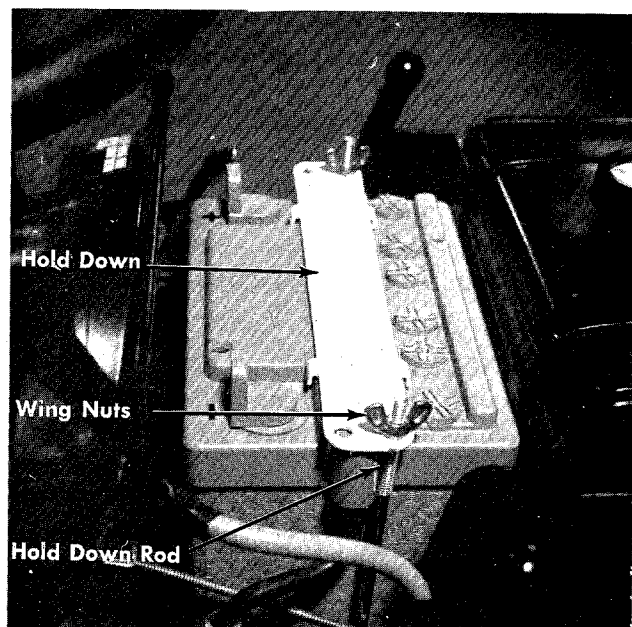

FIGURE 4
- Step 5. Secure the hold down with the wing nuts. Tighten hand tight. (See figure 4.)